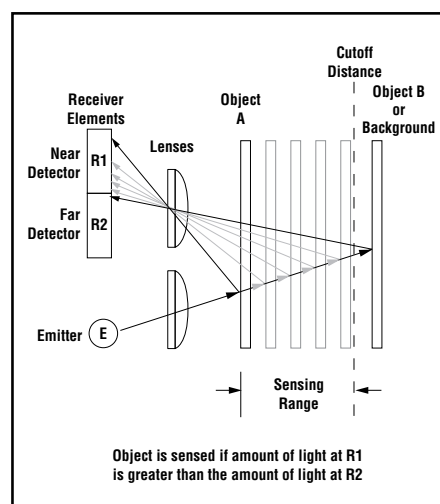

Figure 1. Fixed-field concept
The T18FF compares the reflections of its emitted light beam (E) from an object back to the sensor's two differently aimed detectors, R1 and R2 (see Figure 1). If the near detector (R1) light signal is stronger than the far detector (R2) light signal (see object A, closer than the cutoff distance), the sensor responds to the object. If the far detector (R2) light signal is stronger than the near detector (R1) light signal (see object B, beyond the cutoff distance), the sensor ignores the object.